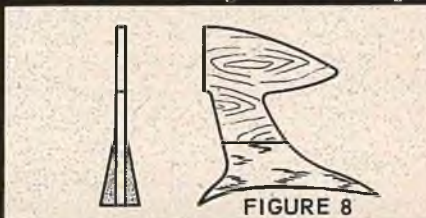

FIGURE 8
Step 18. Glue side braces, made from 1" trailing edge stock, in place at bottom. Tailor to fit wing curve as in Fig. 8.